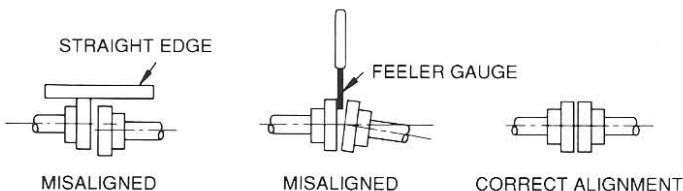

Figure 2 - Alignment Check
2. Check the alignment of the motor, gear reducer, and the pump. Where flexible couplings are used, remove the coupling cover and lay a straight edge across the two hubs of the coupling (see Figure 2). The maximum offset should be less than .015" (.381 mm).